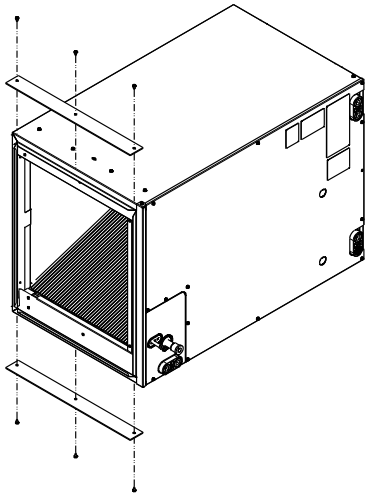

Fig. 9 – Horizontal Right Attachment Plates
1. Use field fabricated attachment plates to secure coil to furnace (Fig. 9).